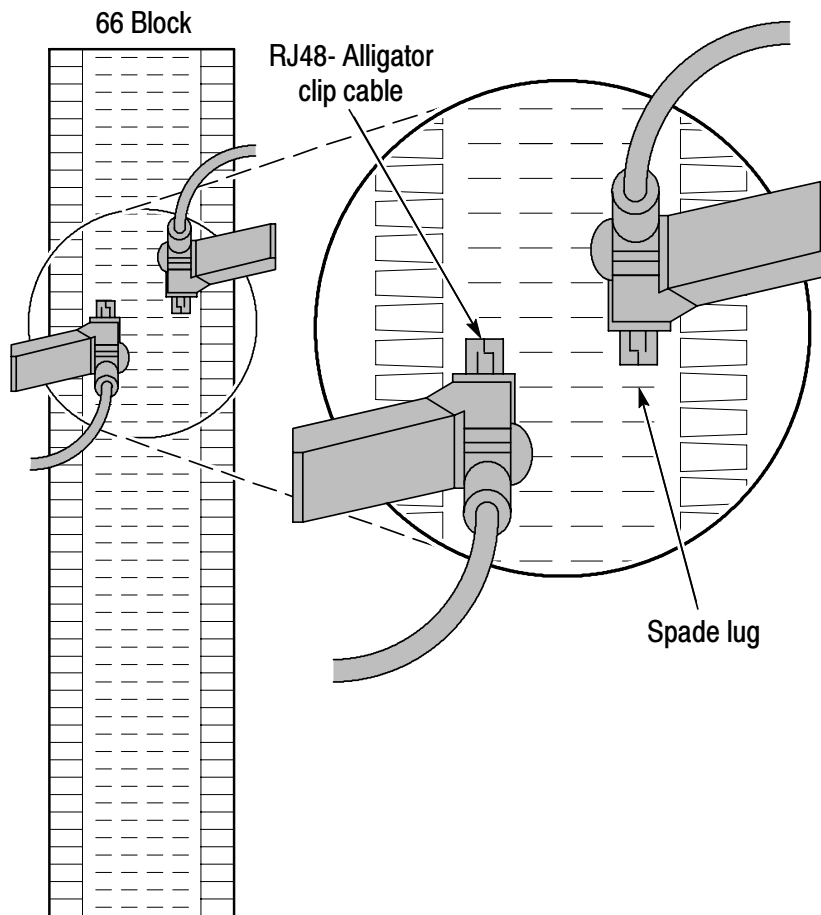

Figure 3-5: Typical connections for bridge monitoring
3. Connect the Receive alligator clips to the appropriate points in the service access. See Figure 3-5.